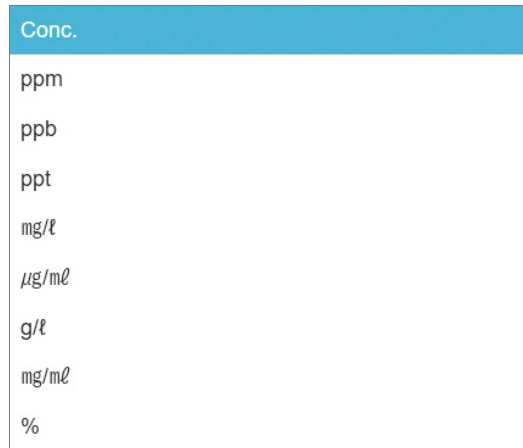

Fig. 2.8
2. [Fig. 2.8] Select a unit to use.